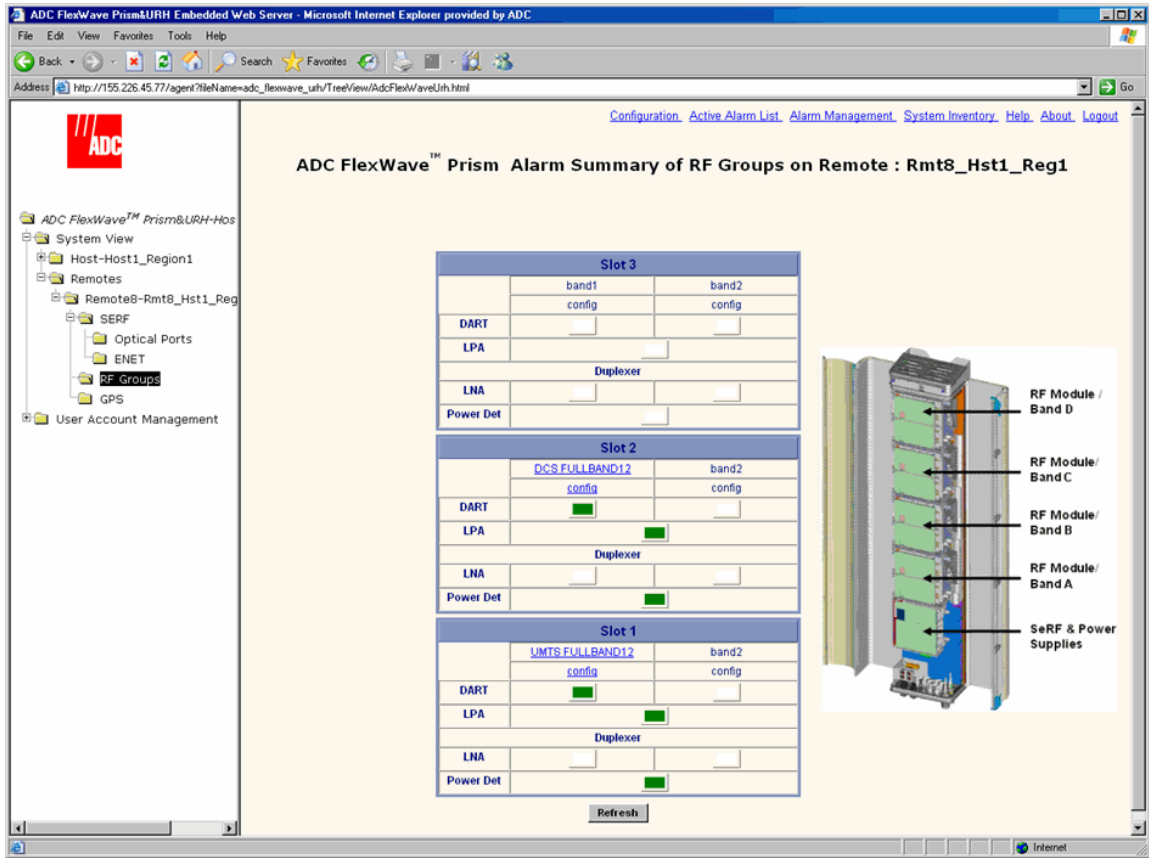

Figure 6-2. Alarm Summary of RF Groups View
Figure 6-2 shows the **Alarm Summary of RF Groups** view. If a slot is not occupied by an RF Module, the slot is shown with a white indicator.
- 34 In the Function Explorer Tree, select **System View, Remotes, Remote#-x, SERF, RF Groups** (where **Remote#** indicates the Remote number that corresponds to a Host SFP port number and *n* is the Remote name) to open the **Alarm Summary of RF Groups** view (see Figure 6-2 on page 161).